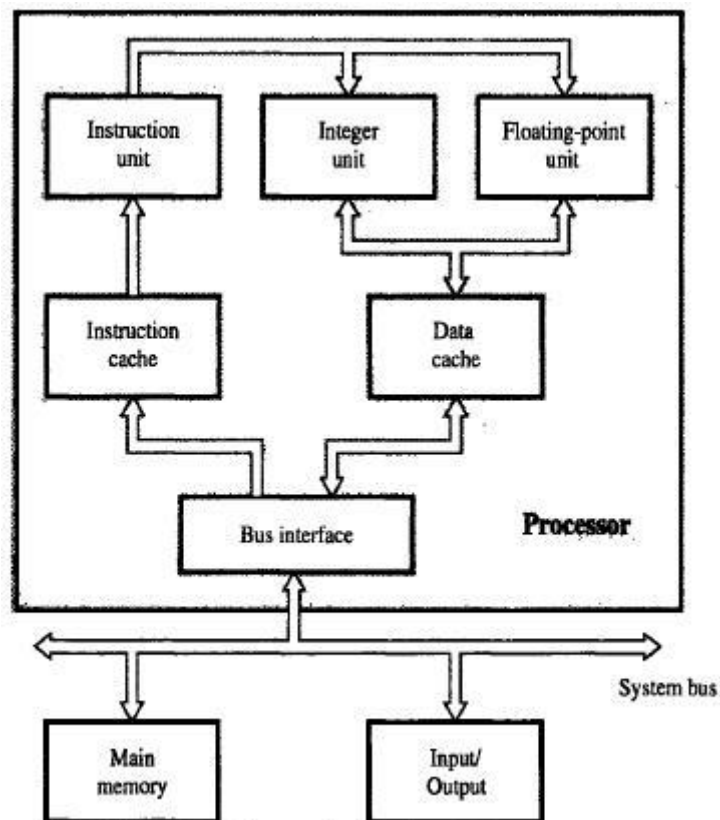

Figure 7.14 Block diagram of a complete processor.
- This has separate processing-units to deal with integer data and floating-point data. **Integer Unit** → To process integer data. (Figure 7.14).